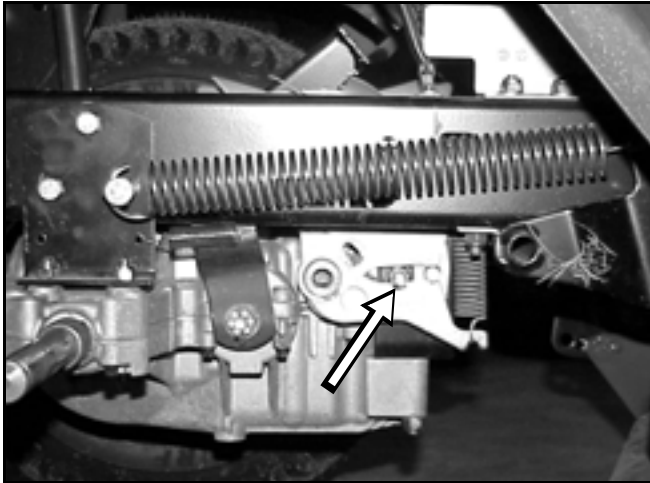

Figure 100
2. Loosen the locknut (Figure 100).